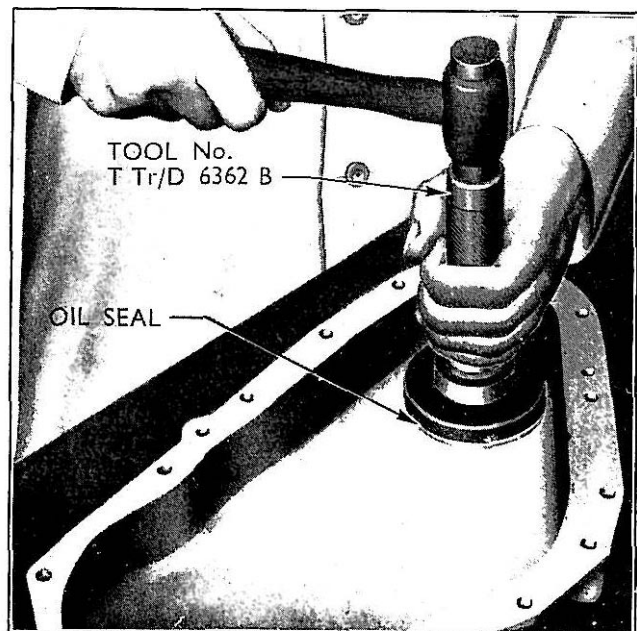

Fig. 32
- 3 Tap the new seal gently into position using the tool No. TTr/D 6362-B and a suitable mallet. (See Fig. 32.)